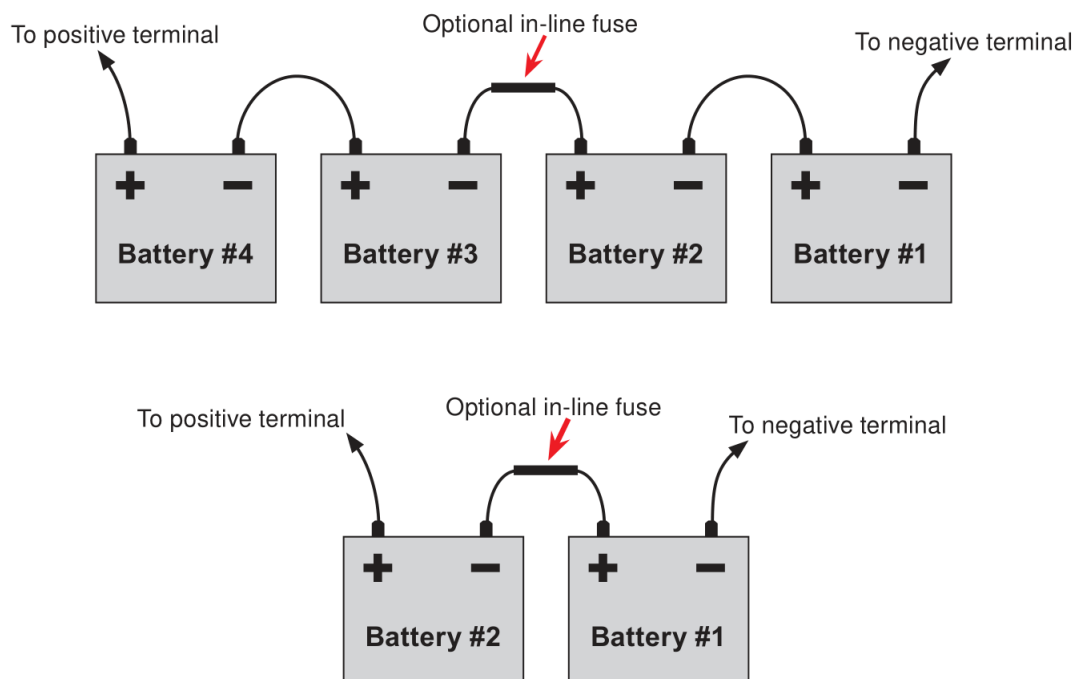

Figure 22 — External Battery Wiring (for 48 VDC string (top) and 24 VDC string)
2. For FXM350-48 (48V battery string), number the batteries from 1 to 4 with labels or tape. For FXM350-24 (24V battery string), number the batteries from 1 to 2 as shown in the Figure 22.
6. Connect the batteries as shown in Figure 22. If used, install the in-line fuse.